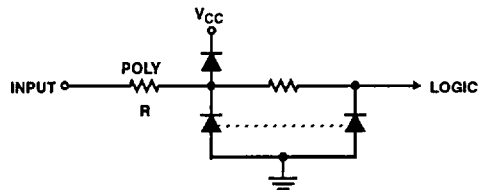
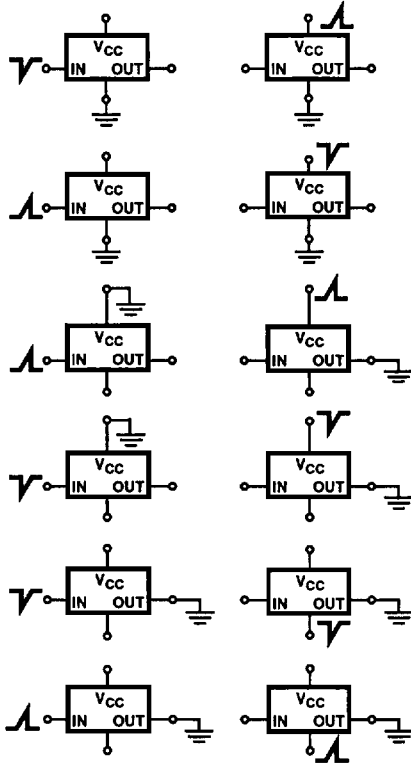
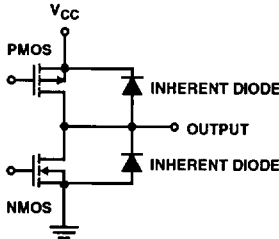

FIGURE 9. RESISTOR DIODE PROTECTION NETWORK USED ON INPUTS OF HC/HCT DEVICES TO PROTECT DEVICE GATE OXIDE FROM ELECTROSTATIC DISCHARGE DAMAGE (ESD)
FIGURE 10. HC/HCT ESD TEST MODES
FIGURE 21. INHERENT DIODES PROTECTING HC/HCT OUTPUTS
The very low HC/HCT input current and hence, high input resistance is primarily due to low-level leakage currents of the input ESD protection diodes shown in Figure 9. This excellent input buffering characteristic of CMOS logic ICs is fundamental to the wide range of very low power applications from pure logic to wide range RC oscillators, high Q crystal oscillators, etc. However, in no situation should this high input resistance be left floating or unterminated. Inputs may be tied directly to V_{CC} or GND via resistors of up to $1M\Omega$; the upper limit is only related to AC noise immunity, i.e., pick up.
One additional note on HC/HCT input terminations. There are several bidirectional (transceiver) logic types in the QMOS family with common I/O pins. These I/O pins do not have the input poly resistor (R) of Figure 9. Hence, these pins cannot be terminated directly to V_{CC} or GND. A terminating resistor to V_{CC} or GND of $10k\Omega$ is recommended.
HC/HCT device inputs have a resistor-diode protection network, shown in Figure 9, that protects the gate oxide from electrostatic discharge (ESD) damage. The network provides protection to levels typically greater than 2kV in all modes pertaining to the input, as shown in Figure 10. The
As a general rule, CMOS logic devices employing input clamp diodes (Figure 9) to minimize ESD effects should be operated between the power supply rails. If the input series polysilicon resistor shown in Figure 9 is not considered, then the rule is: $-0.5V \leq V_{IN} \leq (V_{CC} + 0.5V)$.
The outputs in a QMOS device are protected from ESD damage by diodes. Figure 21 shows these diodes. These intrinsic diodes are effective because of the large geometries (widths) of the output transistors. These diodes are the drain to n-substrate junction of the p device and the drain to p-well junction of the n device. This network provides protection to voltage levels typically greater than 3kV in all ESD discharge modes pertaining to the output (see Figure 10).